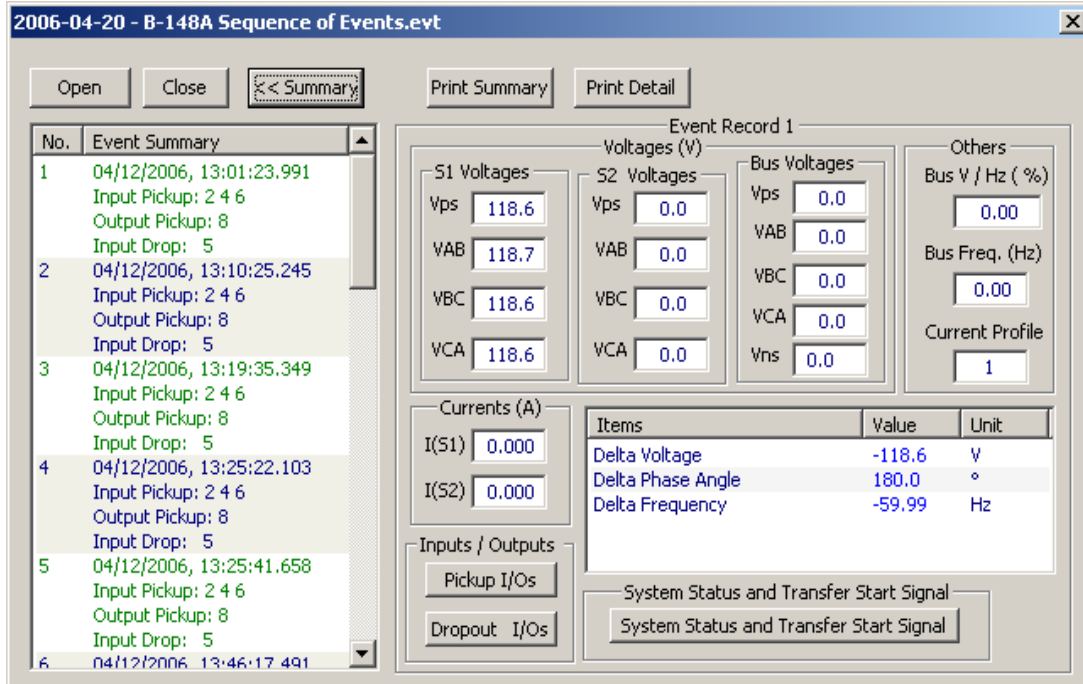

Figure 3-35 Sequence of Events File Summary and Details Screen
5. Select **Details**. ISScom® will expand the Sequence of Events Viewer screen to include the **Details** section (Figure 3-35) which includes additional Sequence of Events information.